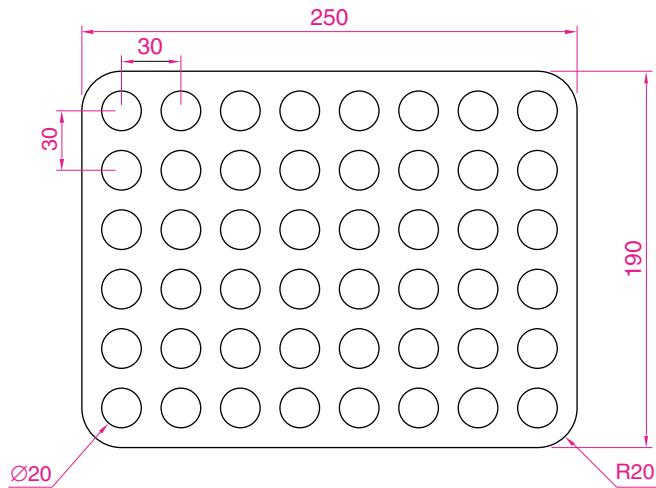

Fig. 5.47 Exercise 2
2. Construct the drawing in Fig. 5.47. All parts of the drawing are plines of width=0.7. The setting in the **Array** dialog is to be **180** in the **Angle of array** field.